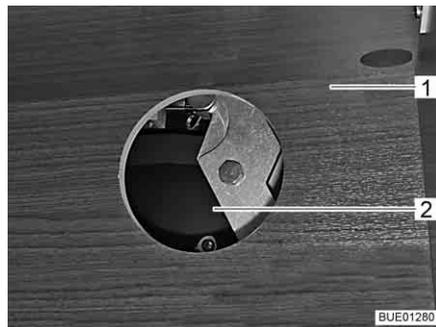

Fig. 116 Access to drive
- Depending on the model, open the flap of the wall-mounted cupboard (Fig. 116,1) and remove the cover from the access port (Fig. 116,2).